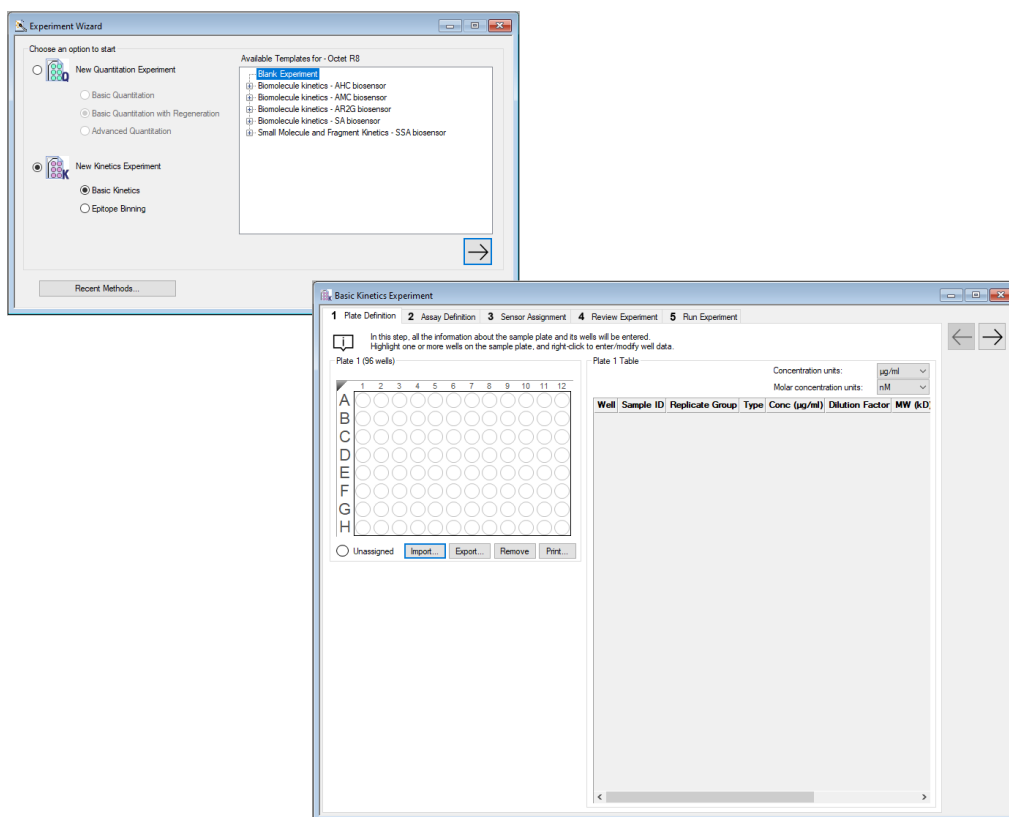

Figure 9-1: Starting a Kinetics Experiment with the Experiment Wizard
- In the **Experiment Wizard**, click **New Kinetics Experiment** (see Figure 9-1, left).
- Click the arrow button () . The **Basic Kinetics Experiment** window displays (Figure 9-1, right).